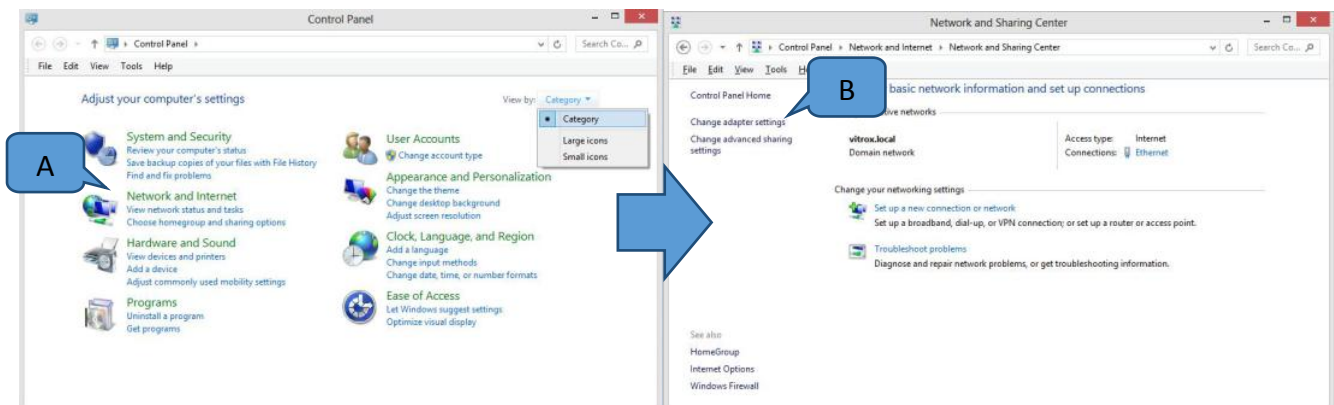

Figure 16 Network Adapter
- Go to Control Panel, at the “Network and Internet” tab, select the “View network status and tasks”, click Enter then select “Change adapter setting” as Figure 16.